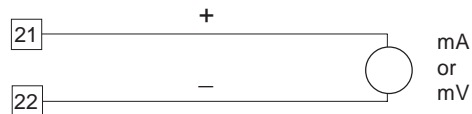

Fig. 5.8
- Connect the instrument as shown in Fig. 5.8.